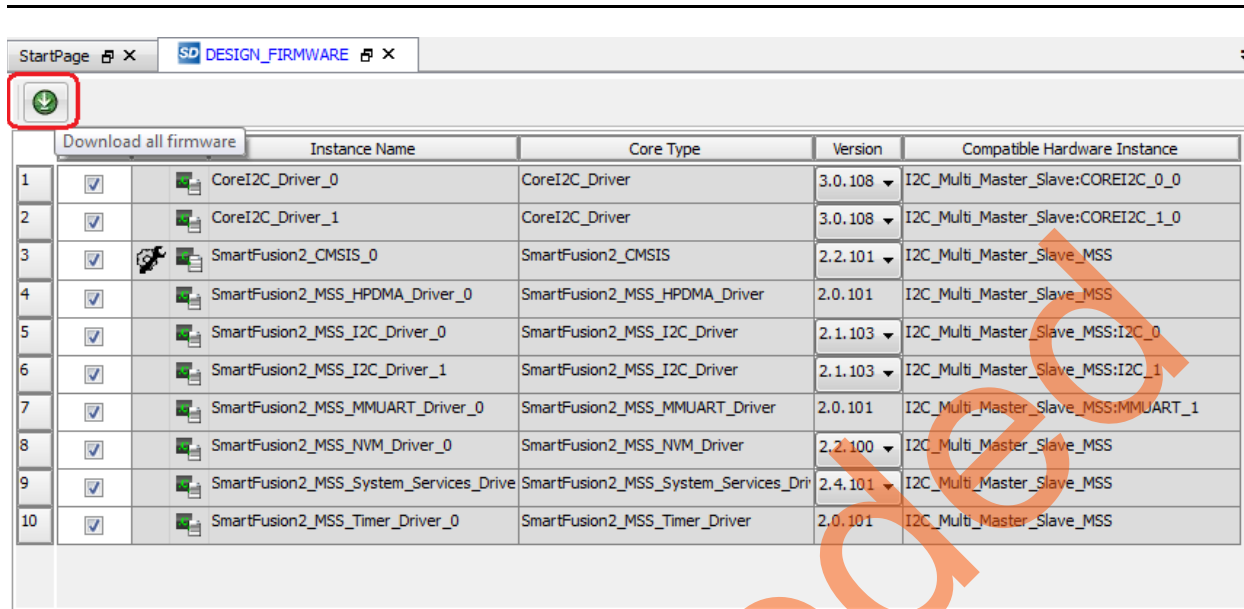

Figure 22 • Download All Firmware
2. **DESIGN_FIRMWARE** tab displays MSS peripherals and CoreI2C drivers. Click **Download all firmware** as shown in Figure 22.